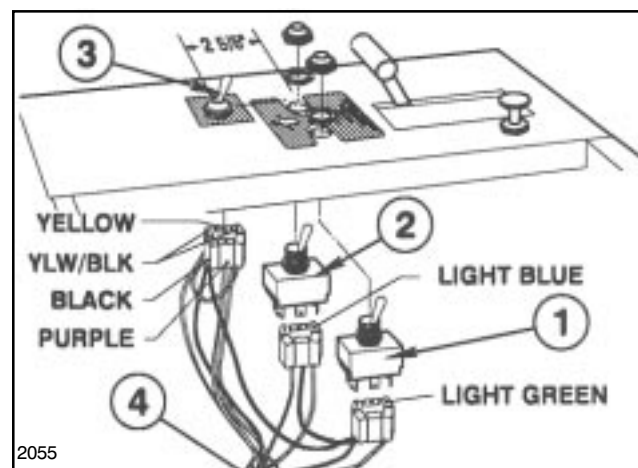

FIG. 12
8. Install two (2) Boom Switches (included in Boom Lift Kit) and Sonic Boom™ Mode Switch (1/2" DIA. hole required). Install Decals, and connect Wiring Harness. See FIG. 12.